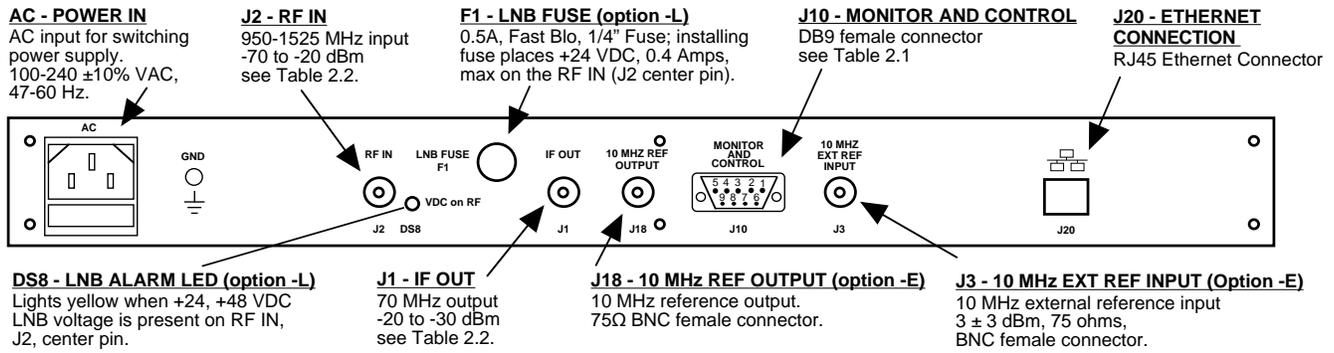

FIGURE 2.2 2016-03 Rear Panel I/Os
2.2 Rear Panel Input/Output Signals - Figure 2.2 shows the input and output connectors on the rear panel.
1. Connect a -70 dBm to -20 dBm signal to RF IN, J2 (Figure 2.2).